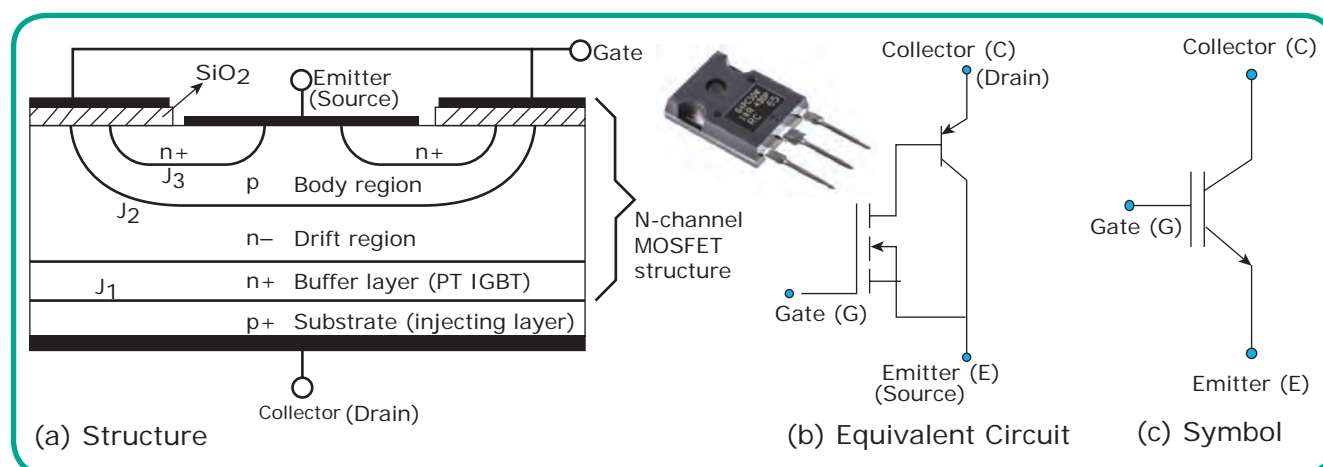

Figure 6.23 Insulated Gate Bipolar Transistor
**Construction:** Figure 6.23 shows the structure, equivalent circuit and symbol of an IGBT. It is similar to the structure of MOSFET and the main difference
is the presence of p+ layer that is added to the drain side. This p+ layer is also called injecting layer. The next layer is n+ layer also called as buffer layer. There is a p-n junction  $J_1$  between the injecting layer and the buffer layer. There are two more p-n junctions  $J_2$  and  $J_3$  as shown in Figure 6.23. The junction  $J_1$  blocks reverse voltage. The junction  $J_2$  blocks forward voltage when IGBT is off.